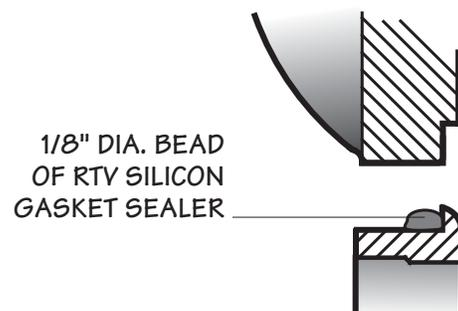

Figure 5 Flange Seal of Bottom Bearing Cap
1. Press ring gear hub (8) and the upper and lower bearing cones (411 and 412) on the fan shaft (201). Install ring gear (101) on ring gear hub and tighten cap screws to 90 ft-lb_f (123 N·m).
2. Install upper fan shaft bearing cup (412) and bearing retainer without shims.
3. Turn the Geareducer case upside down and install the fan shaft assembly seating the upper fan shaft bearing cone into its cup. Install the lower bearing cup (411).
4. Install the bottom cover cap using sealer as indicated in **Figure 5** and tighten cap screws to 25 ft-lb_f (34 N·m). Use old shim pack or make up equivalent thickness shim pack (420) and install the bottom bearing retainer cap. Do not install the O-ring for the bottom bearing retainer at this time. Tighten the cap screws to 25 ft-lb_f (34 N·m).